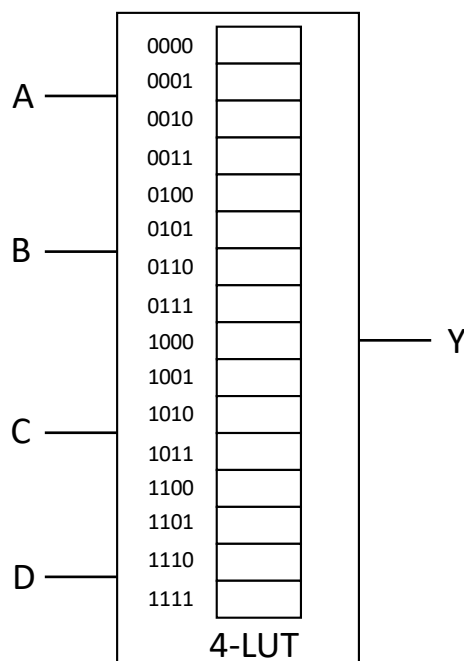

Figure A.1: Diagram of a 4-LUT
**A.4.1 Implement combinational logic functions using LUT** Implement the following combinational logic functions using a 4-input LUT as shown in Figure A.1. In both cases, write down the configuration values of the LUTs.